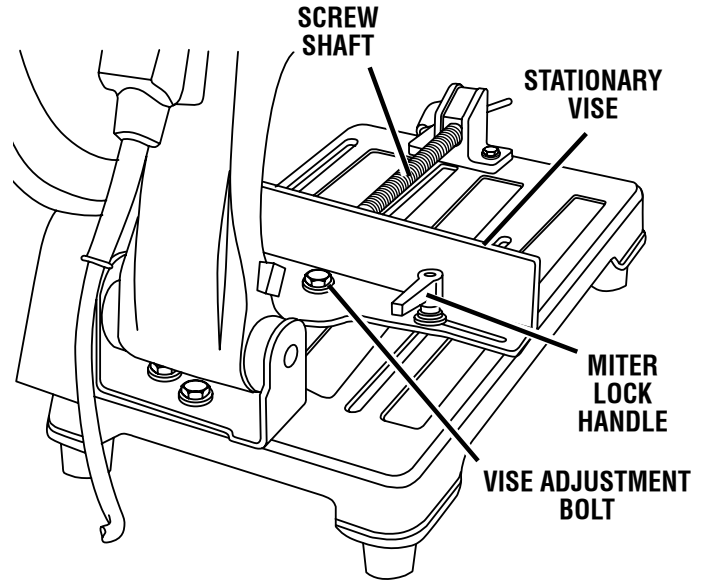

Fig. 12
See Figure 12.
See Figures 12 - 13.
- Tighten the miter lock handle. For precise cuts, check the angle of cut for the fence against the wheel with a protractor, bevel square, or other similar device. This will secure the fence in place at desired angle. See Figure 12.